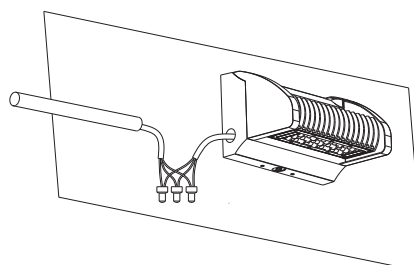

Figure 2-4
4. Fix the luminaire on the bracket; make wiring connection from side and go through isolation treatment. (Figure 2-4)